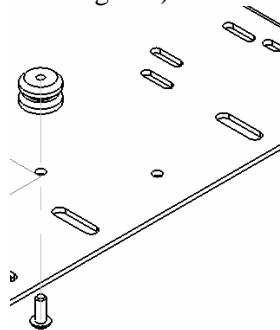
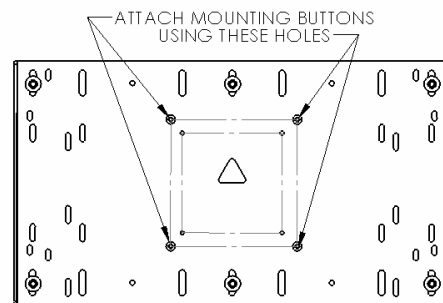

Figure 2
Figure 3
1. Using a 10-24 button head cap screw inserted from back side of bracket, secure mounting button, with chamfered hole of mounting button (larger surface) facing bracket, bracket (four places) (see Figure 2 & Figure3).